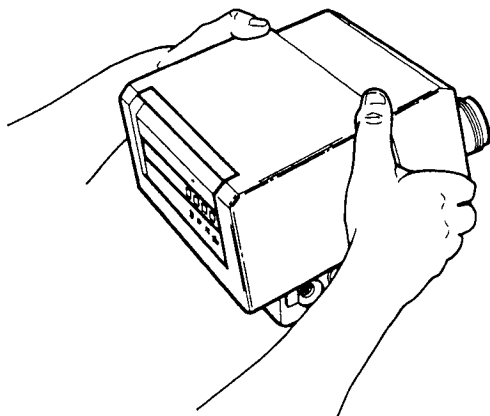

Figure 5
1. Remove the control valve cover by grasping each side of the cover at the bottom, towards the back. Spread the sides apart slightly and lift off (Figure 5).
- A. Remove control valve cover (Figure 5).